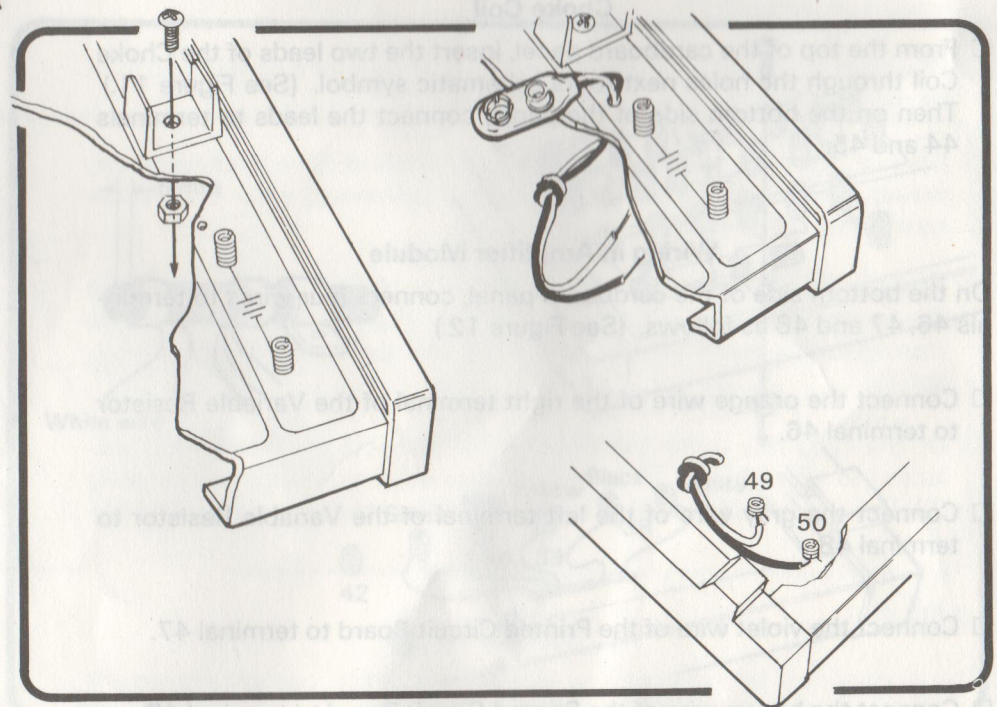

FIGURE 13
- On the top side of the panel, position the Battery Holder over the proper hole. Then insert the long Phillips-head screw and secure the holder with a nut. Use a screwdriver to tighten the screw. (See Figure 13.)
- From the top side of the panel, insert the wires of the Battery Snap through the hole next to terminal 49. Then turn the panel over; tie a knot in the wire (See Figure 13.). The knob will keep the wire from coming out of the hole.